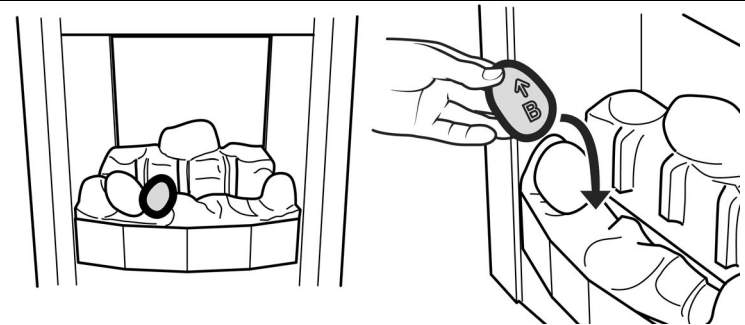

Figure 7.
4. Hold pebble 'B' upright with the arrow pointing to the top. Place pebble "B" on top of the front base pebble. (See figure 7).